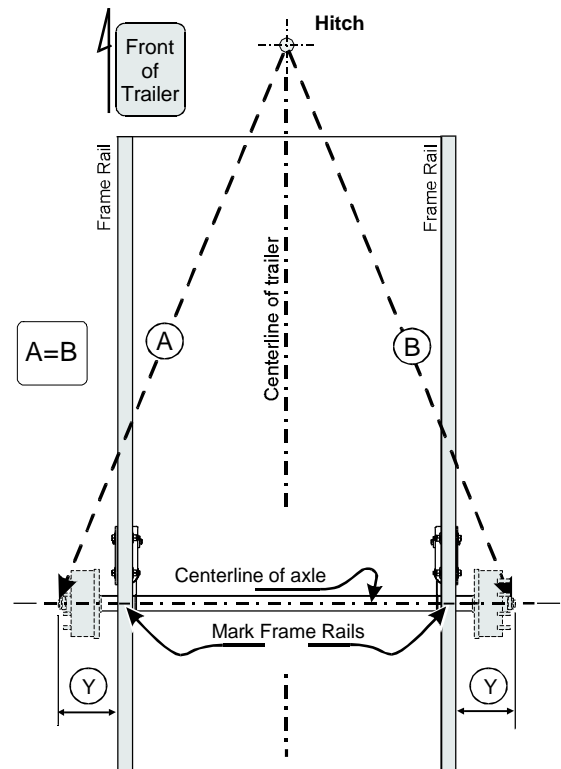

Fig. 1 Axle alignment (View from Top)
- 1) Mark frame rails at each side where centerline of axle should cross frame (fig.1).
- 4) To align axle, measure and compare distances "A" and "B" (fig. 1) and make sure that the error (difference between "A" and "B") is no more than 1/8". If the error is greater than 1/8" reposition frame brackets and recheck.